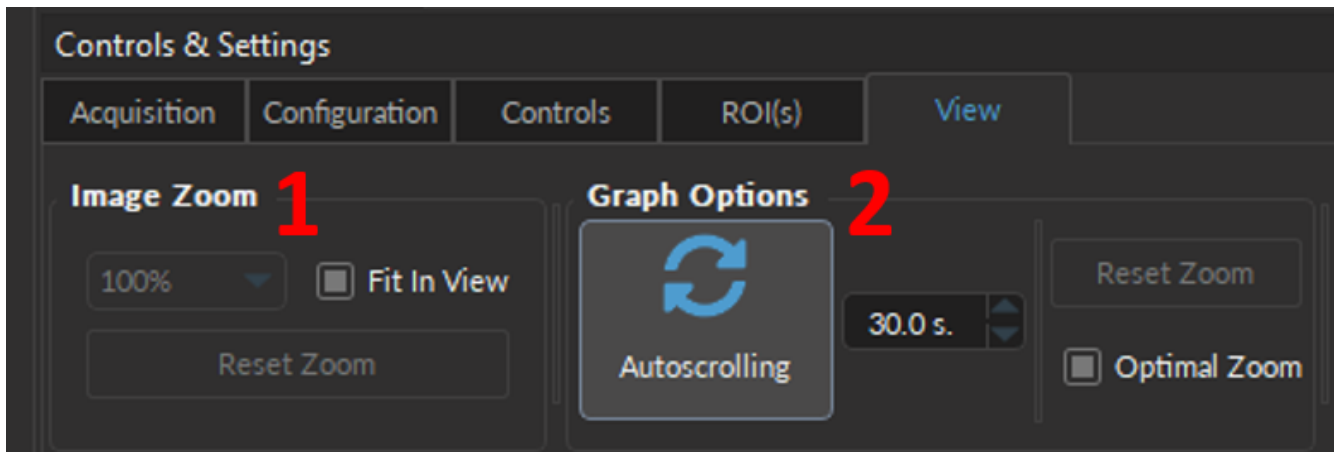

Figure 10.15: View Tab
The **View Tab** (Fig. 10.15) is used to modify the presentation of graphs in the **Acquisition view**.
1. The **Image Zoom** (Fig. 10.15, 1) includes the following:
2. The **Graph Options** (Fig. 10.15, 2) includes the following parameters which modify the **Graph View**: